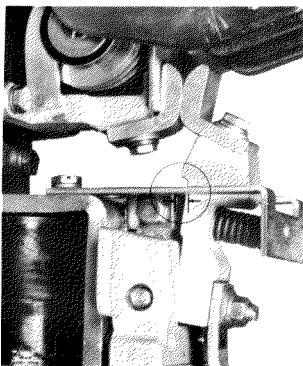

Figure 4 Power Contact Tip Follow-Up
Replace contact tips when the contact follow-up is less than 1/16" (see Figure 4).
14. Replace auxiliary arm spring retainer and spring using lock washers and hex head screws. Visually verify that auxiliary arm spring is properly seated between auxiliary arm spring retainer and auxiliary arm, as shown in Figure 4.
2. Remove auxiliary arm spring retainer (item 16) by removing hex head screws and lock washers.
3. Remove auxiliary arm spring (item 15) from auxiliary arm.
5. Replace auxiliary arm spring retainer using hex head screws and lock washers. Visually verify that auxiliary arm spring is properly seated between the auxiliary arm spring retainer and auxiliary arm, as shown in Figure 4 on page 5.